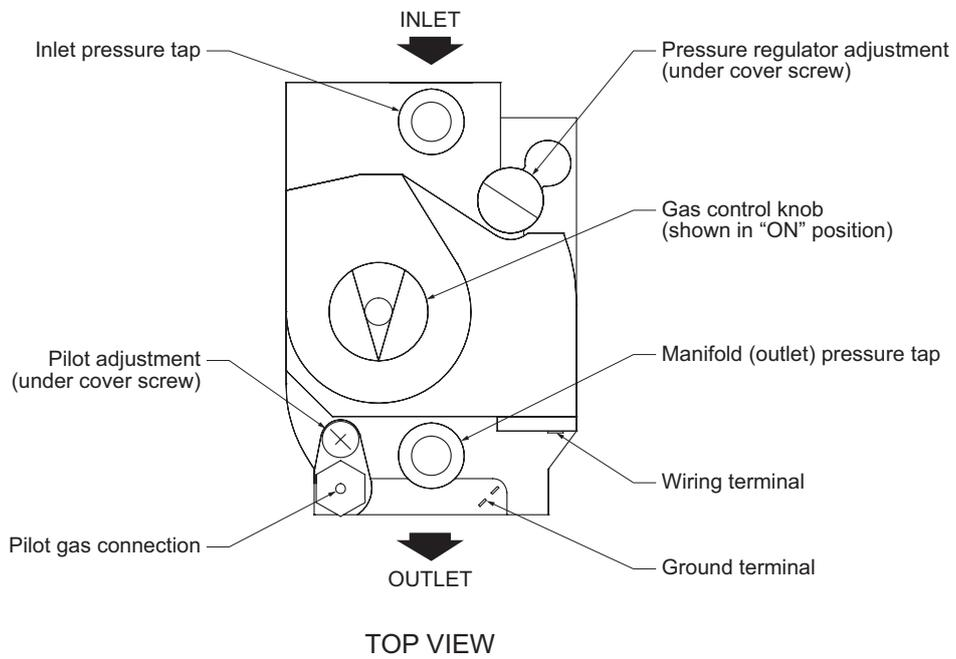

Figure 11.3 (Gas valve detail)
- a. Connect a manometer to the inlet pressure tap on the gas valve (see Figure 11.3).
- c. Connect a manometer to the manifold (outlet) pressure tap on the gas valve (see Figure 11.3).
- e. If a manifold pressure adjustment is needed, make the adjustment by turning the regulator (see Figure 11.3) screw clockwise to raise the pressure and counter clockwise to reduce the pressure. If a manifold pressure adjustment is made, recheck the line pressure to be certain that it is still within acceptable limits. Replace the cover screw on the regulator.
- c. Test for spillage at the draft hood relief opening after five (5) minutes of main burner operation. Use the flame of a match or candle, or smoke from a cigarette, cigar, pipe, etc.